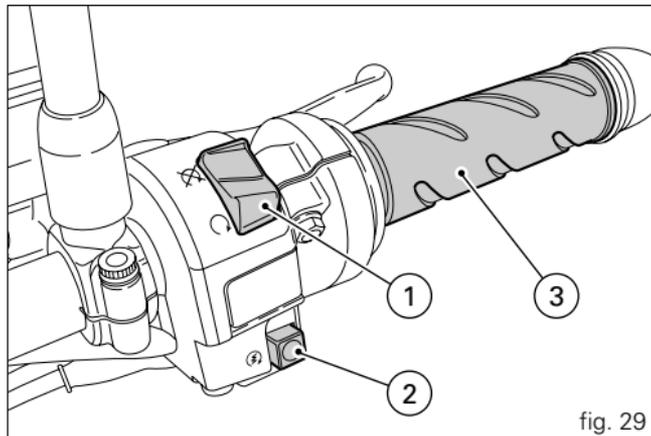

fig. 29
- 2) Make sure that the stop switch (1, fig. 29) is in the  RUN position, then press the starter button (2, fig. 29).